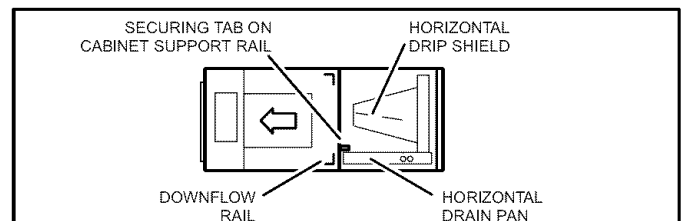

Figure 4. Left-hand Air Discharge Configuration
- Step 10. From the up-flow position, flip cabinet 90° to the left and set into place. Replace coil assembly. Secure coil in place by bending down tab on cabinet support rail as illustrated in figures 4 and 5.